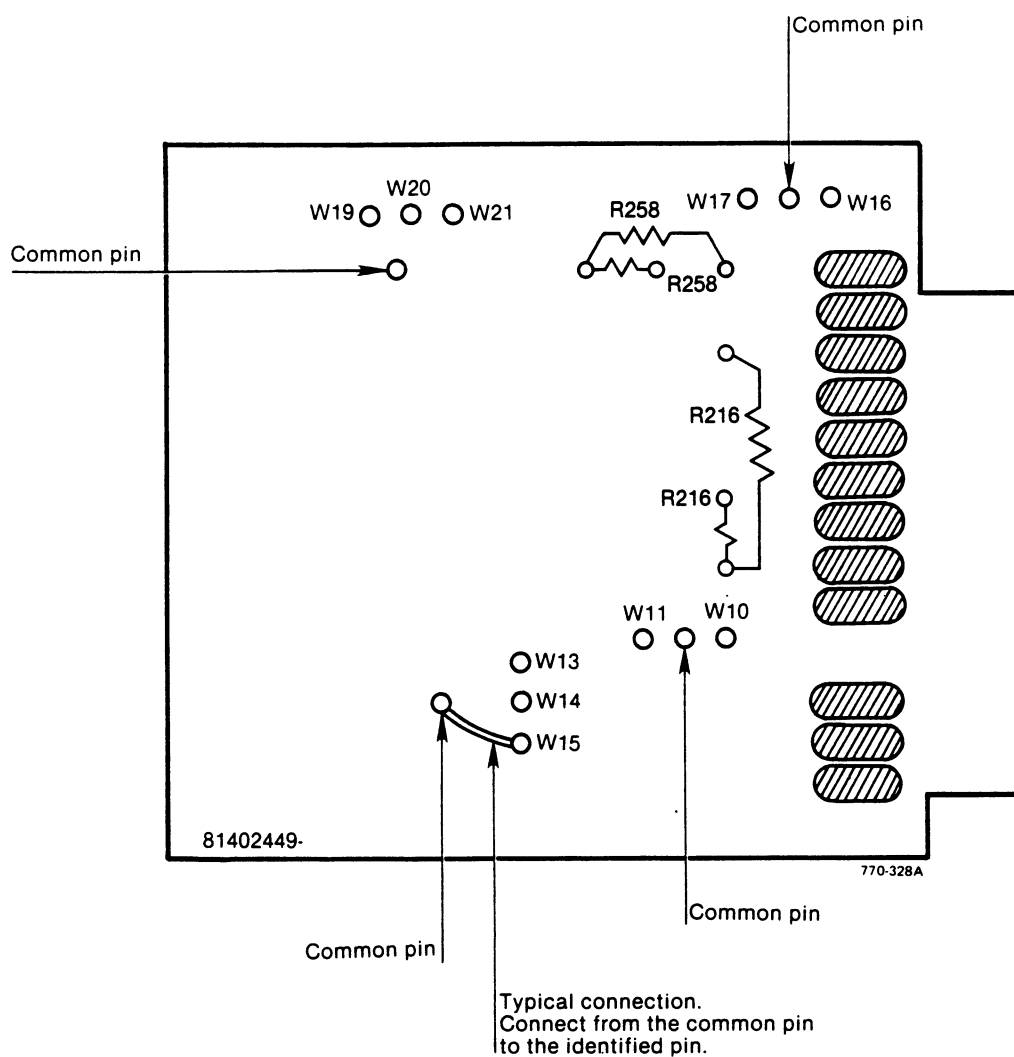

Figure 9-1—Connector locations on the analog board
2.	Use Figure 9-1 as a guide to locate the connections and resistors listed in Table 9-7 for the input type you are changing to, and change their status (INSTALLED or Removed) as required. ■ Remove connections and resistors by cutting at both ends. ■ Install connections by wire wrapping or soldering to the common pin and the pin identified by a W and a number ■ For the Current Input Type, solder the 2.5 ohm resistor in the holes provided for R216 or R258. For Volts input type, solder in a 2.49K ohm resistor. For all other input types in Table 9-7, leave the hole open. ■ For Volts Input Type, solder 249K ohm resistor in the holes provided for R122 (channel 1) and/or R123 (channel 2).